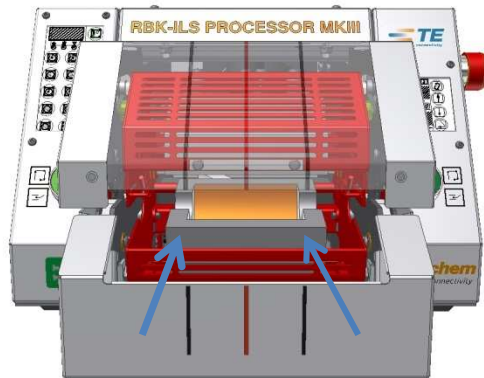

Fig. 3-3: Manual movement of bottom heater
1. Push bottom heater guard to rear of machine until heater opens (Fig 3.3.).